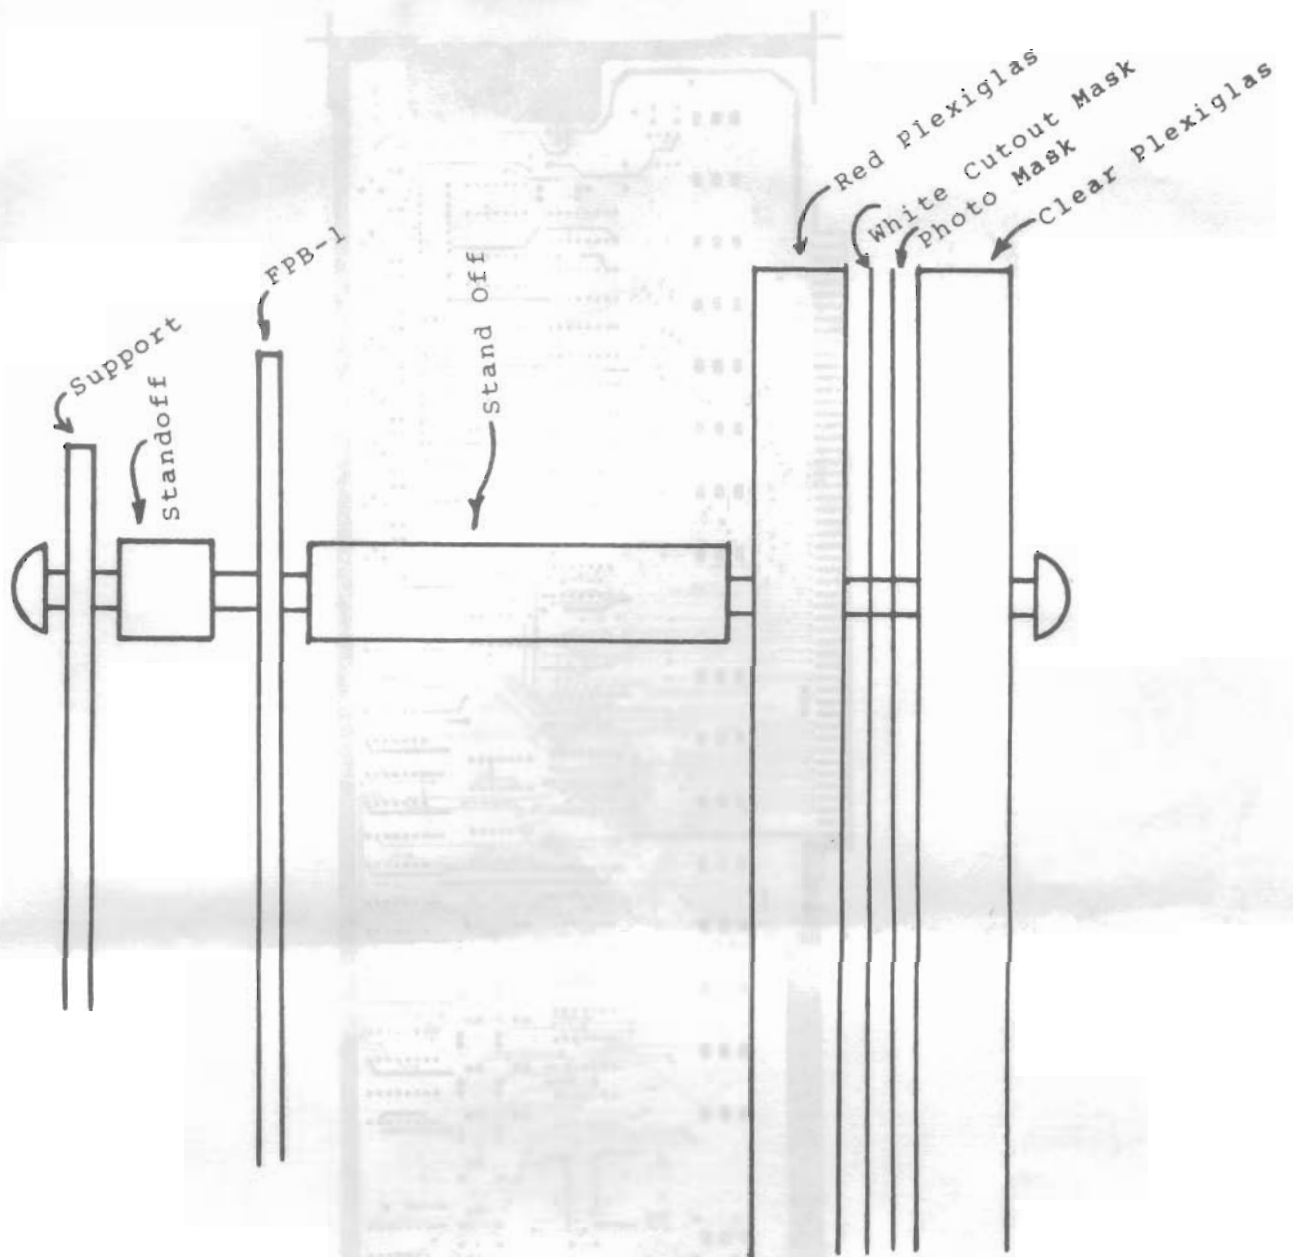

Figure 5. FPR-1 COVER ASSEMBLY
- III-2 If you are not replacing an IMSAI front panel assembly, it will be necessary for you to construct a cover for your front panel board. The exterior dimensions of the cover will be dictated by the case that you are going to use to house your computer. The cover will consist of four different layers (see figure 5). Since the exterior dimensions of the cover will vary with your case size, it will be easier for you to purchase the plexiglas locally cut to size, than for us to
III-3 If you are making your own case you should place a support (or two braces) behind the FPB-1. This support should be firmly fastened to the case. It will absorb the stress placed on the FPB-1 when the switches are operated. The width of the support will be dictated by the inside dimensions of your case. The height should be 3 to 3½". The support can be screwed or riveted to your case. It is recommended that you fabricate the support, assemble the cover assembly as shown in figure 5, plug the front panel board into your motherboard and then position your motherboard to align the front panel to your liking. After this has been done, mark the position of your motherboard and supports on the case and secure them by whichever method seems most feasible to you. We recommend that you have ½" standoffs under your motherboard so it will not short out on the case.